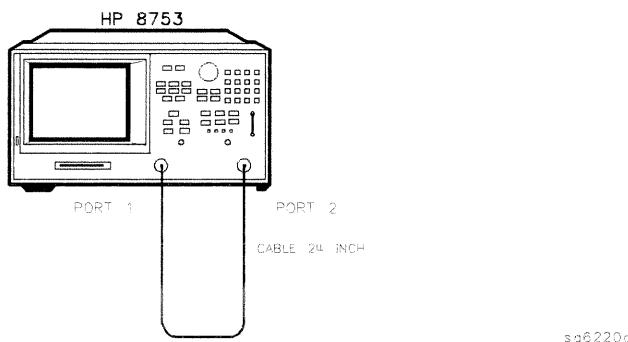

Figure 2-34. Transmission Calibration Test Setup
18. Connect the equipment as shown in Figure 2-34.